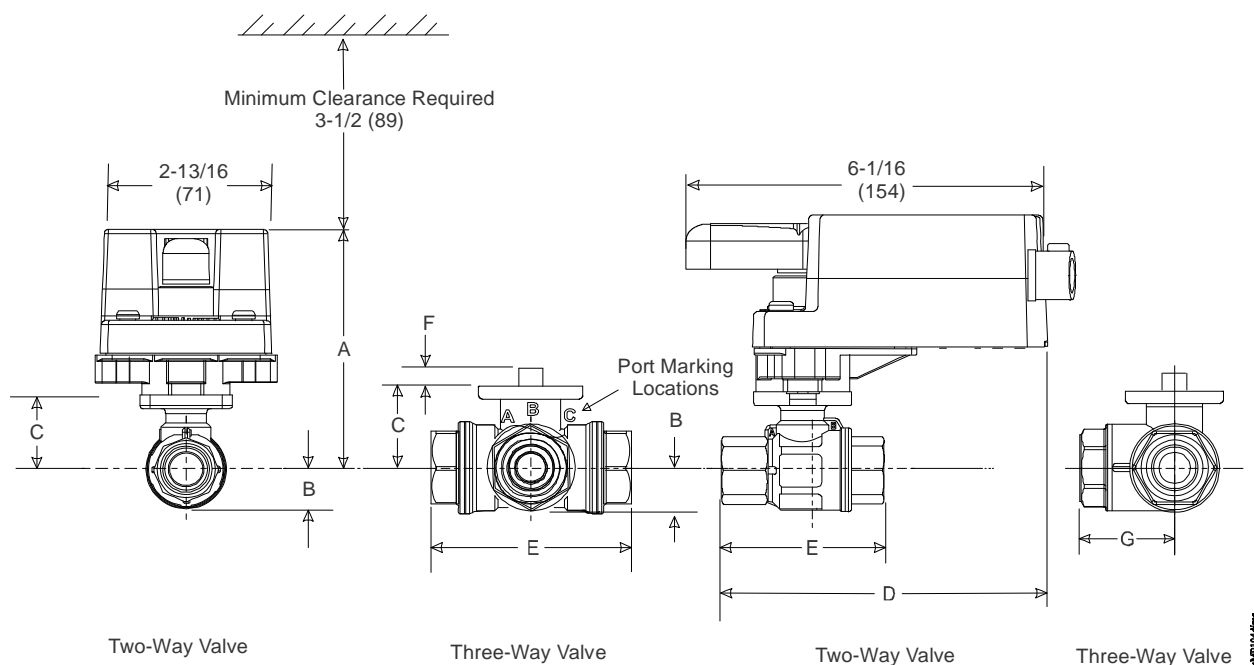

Figure 2: VA9104 Series Electric Non-Spring Return Valve Actuator Dimensions, in. (mm)
See Figure 2 for dimensions of the Non-Spring Return VA9104 Actuated VG1241, VG1245, VG1841, and VG1845 Series Ball Valve. See Table 1 for specific model dimensions.
1. Port A must always be connected to the coil (Figure 2).
1. Port A must connected to the coil (Figure 2).